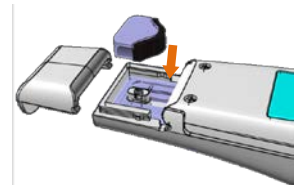

Figure 4
3. Select the appropriate adapter and slide it into the mating slotted channel of the body with slight downward pressure, as shown in Figure 4.